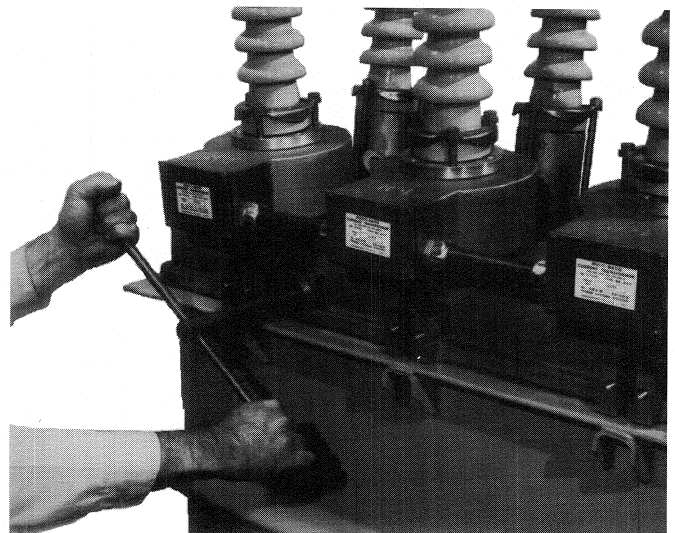

Figure 30.
2. Insert the tee-handled tool (available as an accessory) into the port, engaging the pin on the closing shaft (Figure 30).